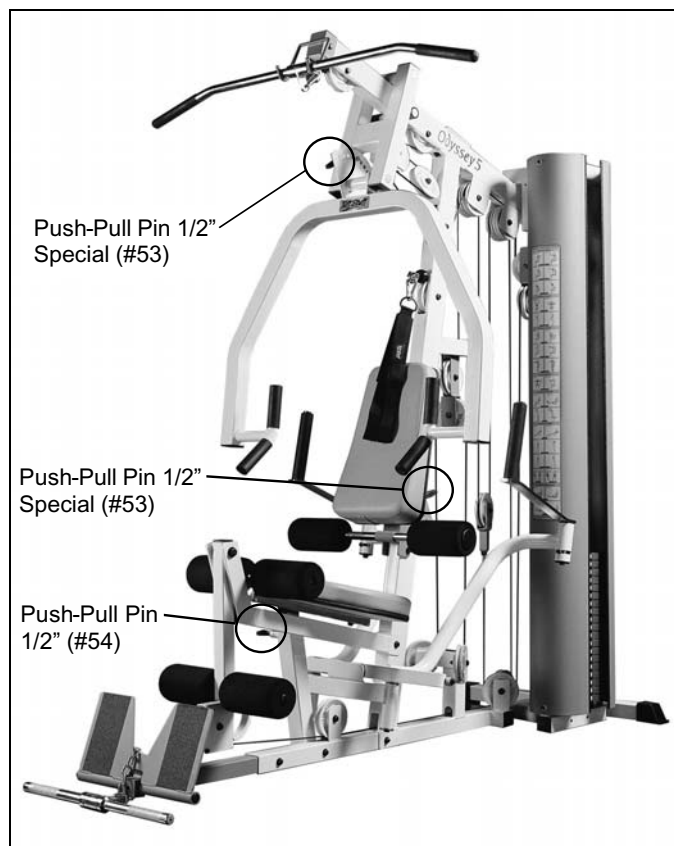
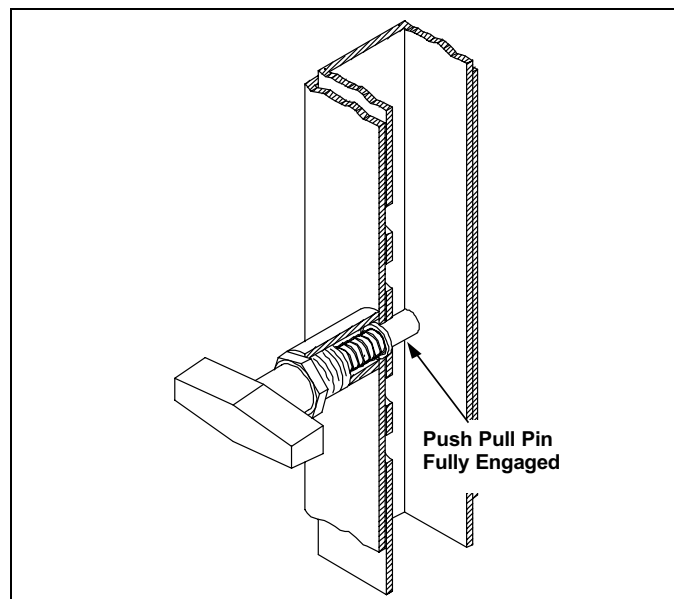

Fig. 1 Illustration above depicts the location of the **Push Pull Pins 1/2" Special (#53)** and **Push Pull Pin 1/2" (#54)** on this unit.
Fig. 2 **Warning:** Check that all **Push Pull Pins 1/2" (#53, #54)** are fully engaged into the selectorized holes.
9. Pay special attention to the **Push Pull Pins (#53 and #54)** located on **Press Bar Selector Housing (#17)**, **Front Upright (#3)** and **Leg Extension Bench Frame (#11)**. See Fig.1. Be sure they are fully engaged into the selectorized holes. Refer to Fig. 2 for further illustration of this warning.